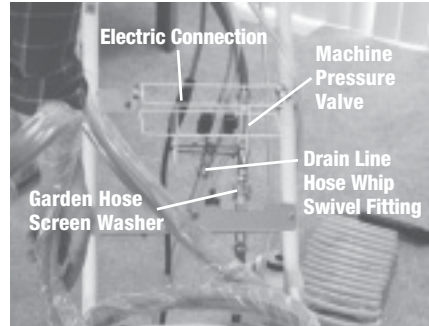

Figure 27: Hose Assembly Connections
1. Unscrew machine's drain valve assembly from the drain line hose whip swivel fitting (figure 27).